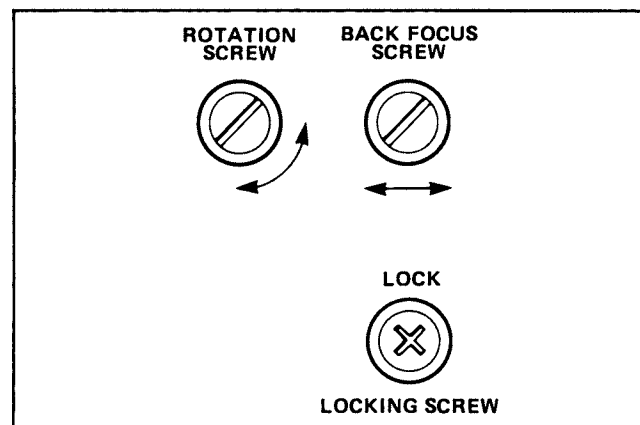

Figure 5-33. Green Focus Adjustment Screws
STEP 3 Unlock green tube locking screw (Figure 5-33). Zoom out and adjust the tube position for best focus, using the green back focus screw shown in Figure 5-33.